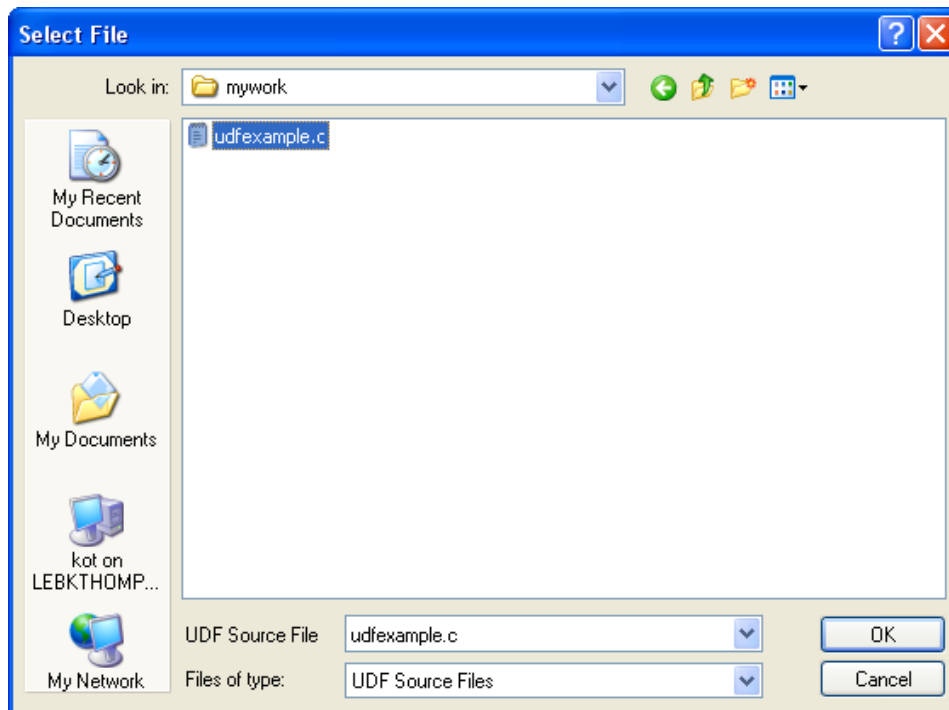

Figure 8.1.5: The Select File Dialog Box
2. In the **Interpreted UDFs** dialog box, indicate the UDF source file you want to interpret by clicking the **Browse...** button. This will open the **Select File** dialog box (Figure 8.1.5).